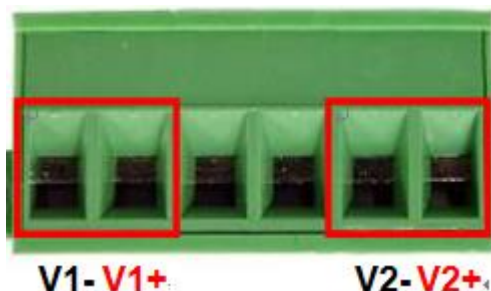

*Figure 2.13*
2. Push down the metal clasp and pull the transceiver out by the plastic part as shown below in *Figure 2.13*.